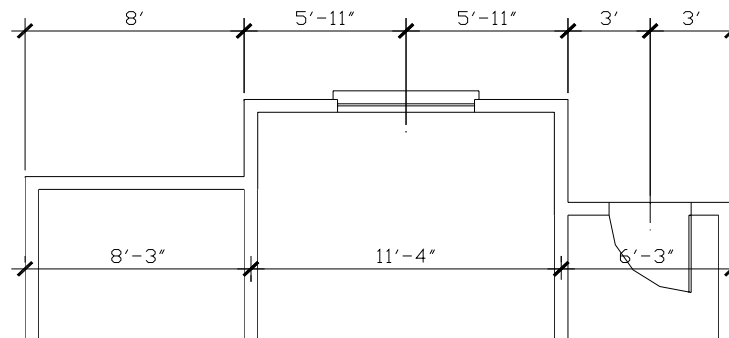

Figure 32. Dimensioning frame buildings
1. For opening dimension, dimension window/exterior door opening/interior partition locations from the outside face of studs to the center of the openings/ interior partitions (Figure 32).